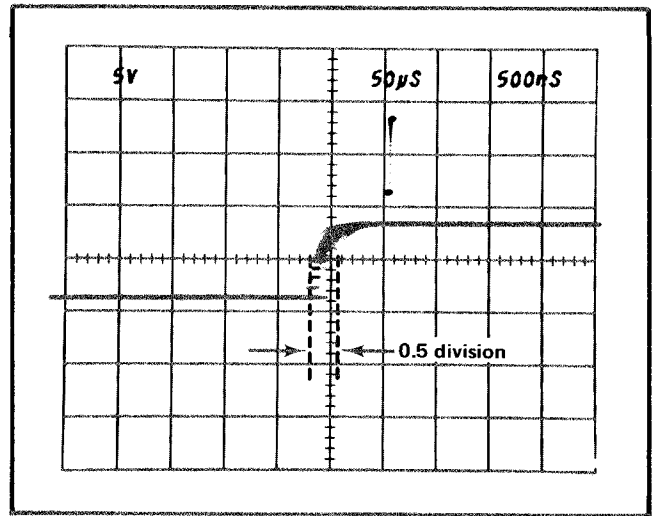

Fig. 2-15. Measuring pulse jitter.
**Example.** Assume that the horizontal movement is 0.5 divisions (see Fig. 2-15), and the B TIME/DIV switch setting is  $.5 \mu\text{s}$ .